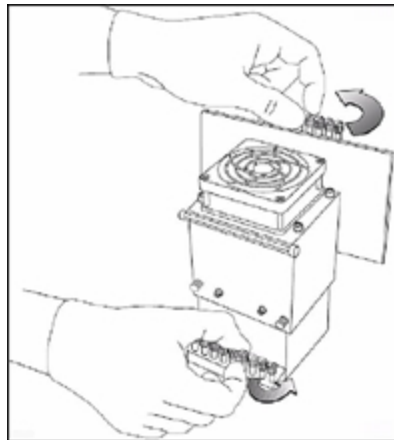

Figure 6-70 Releasing the locking screws
18. Tighten the upper and lower screws that secure the print head in the print block (see Figure 6-70 on page 6-51).